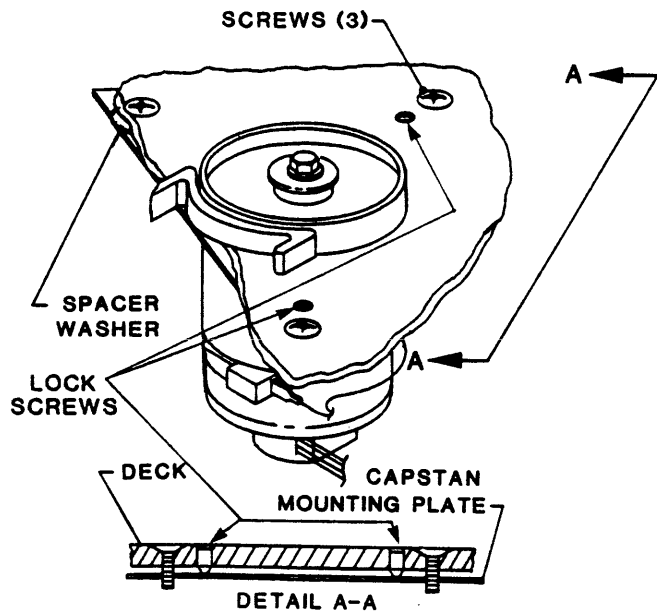

Figure 5-22. Capstan Motor Assembly
5.3.27. CAPSTAN MOTOR ASSEMBLY (Figure 5-22)